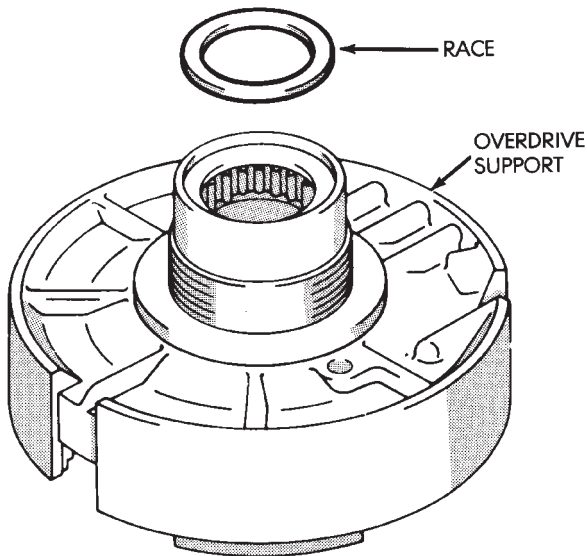

Fig. 26 Remove Overdrive Support Race
(34) Remove race from hub of overdrive support (Fig. 26).